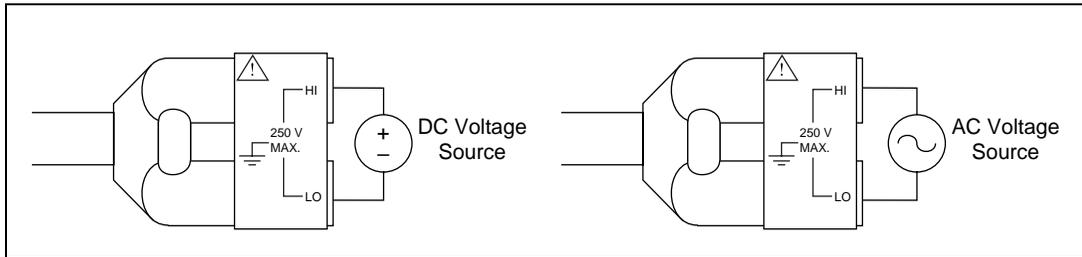

Figure 1-4. Connecting Probes for Voltage Measurement
| Figure 1-4. | Connecting Probes for Voltage Measurement | 1-6 |
1. Connect the test probes to voltage signals as shown in Figure 1-4. For DC voltages, the HI (red) terminal is the positive terminal, and the LO (black) terminal is negative. For AC voltages, positive and negative terms are irrelevant.